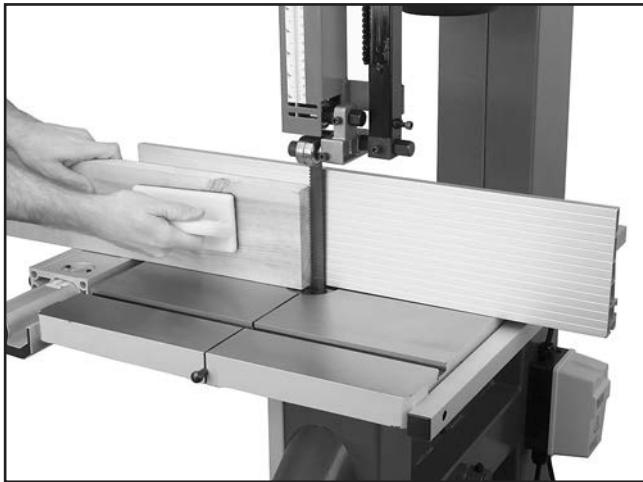

Figure 33. Typical resawing operation.
"Resawing" (see **Figure 33**) means cutting the workpiece into two or more thinner workpieces.
6. Using push paddles and a push stick, maintain workpiece pressure against the fence and table, and slowly feed the workpiece into the moving blade until the blade is completely through the workpiece (see **Figure 33**).